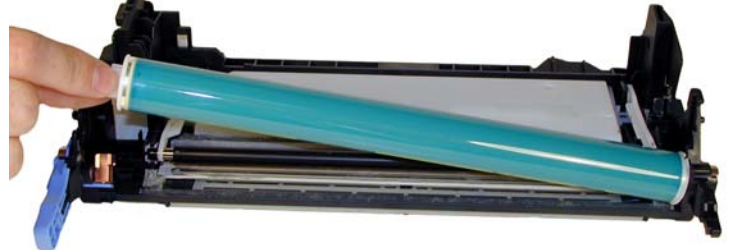

Figure 21
9) Remove the drum. See **Figure 21**